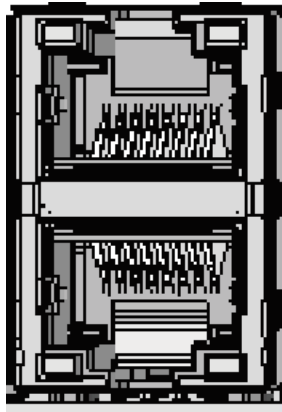

Figure 3-42: Dual RJ45 connector
- CN Location:** See **Figure 3-42**